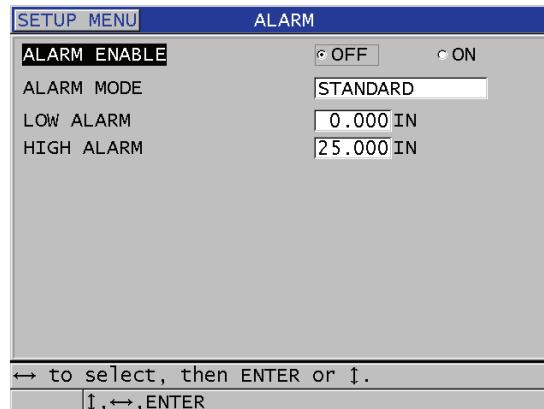

Figure 8-7 Setting up the **STANDARD** alarm
3. In the **ALARM** screen (see Figure 8-7 on page 112):